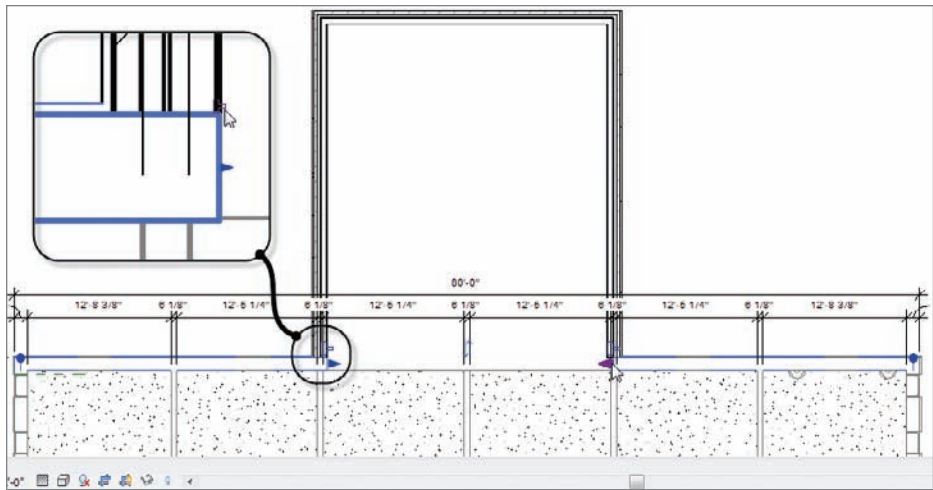

FIGURE 21.13 Cleaning the join between new and existing
10. Select the horizontal wall. You will see arrow grips, as shown in Figure 21.13. You will also see a small T-shaped grip. This is an important grip.
12. Pick the arrow grip, and drag the wall until it is aligned with the new addition wall, as shown in Figure 21.13.